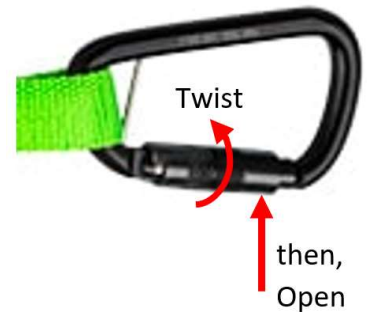

Fig. 8
1. Twist the locking barrel to the open position, then push the gate open. (Fig. 8)